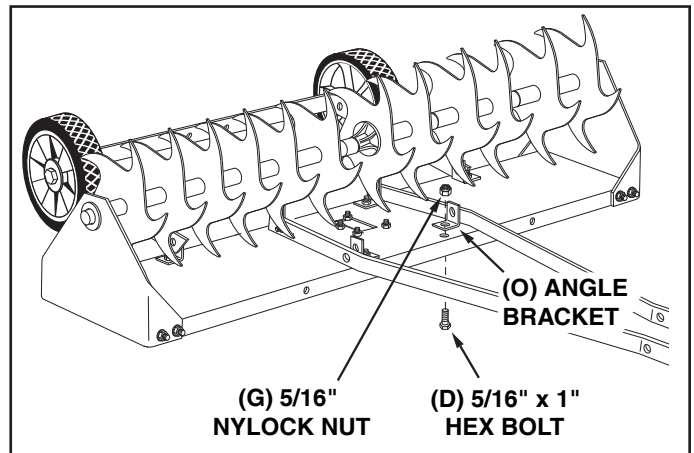

FIGURE 11 FRONT VIEW
- Turn the tray so that the front faces you. Assemble two angle brackets (O) to the holes in the bottom of the tray using two 5/16" x 1" hex bolts (D) and 5/16" nylock nuts (G). **Do not tighten yet**. See figure 11.